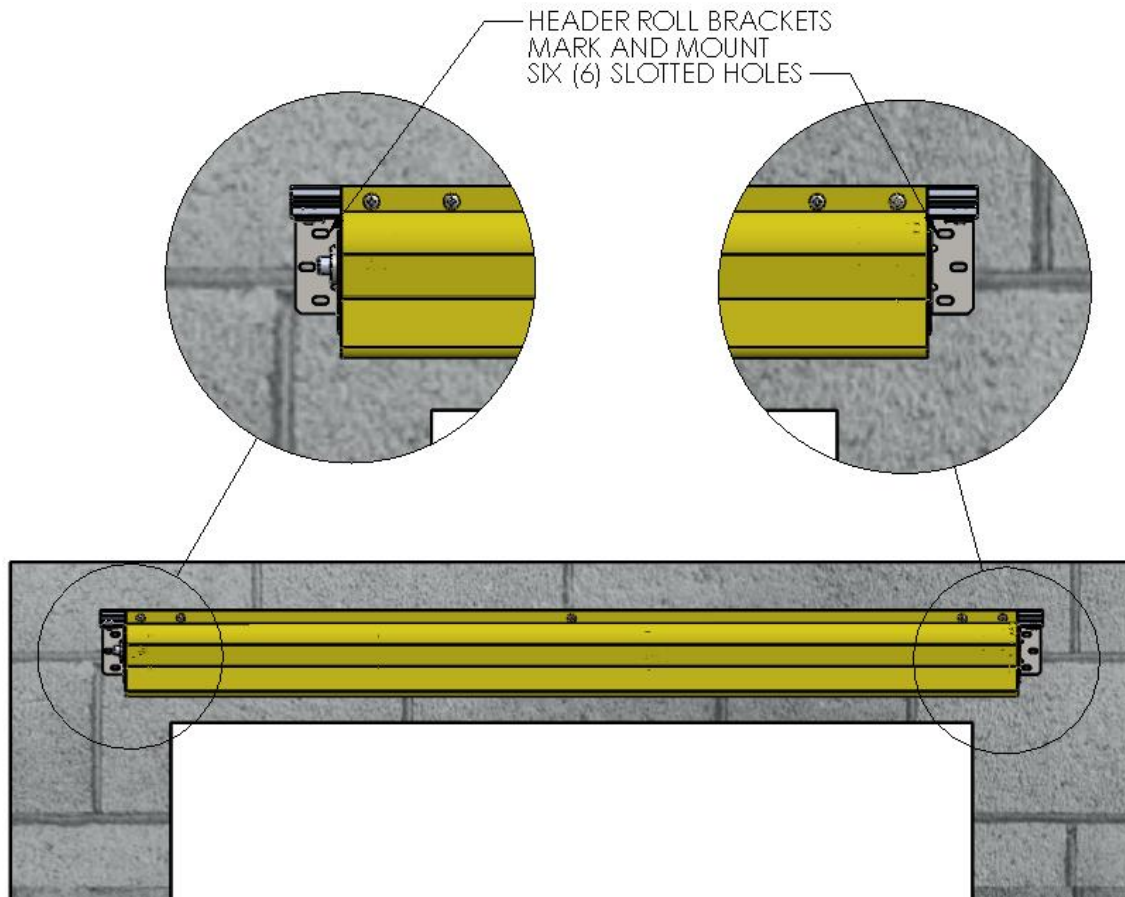

Figure 6 MOUNT HEADER ASSEMBLY
1. Using two (2) people, and two ladders at minimum, raise the Roll Header Assembly into place on the wall, and loosely secure with three (3) sets of mounting hardware per side - screws or bolts, adequate to your building/surface material. (Figure 6 MOUNT HEADER ASSEMBLY)